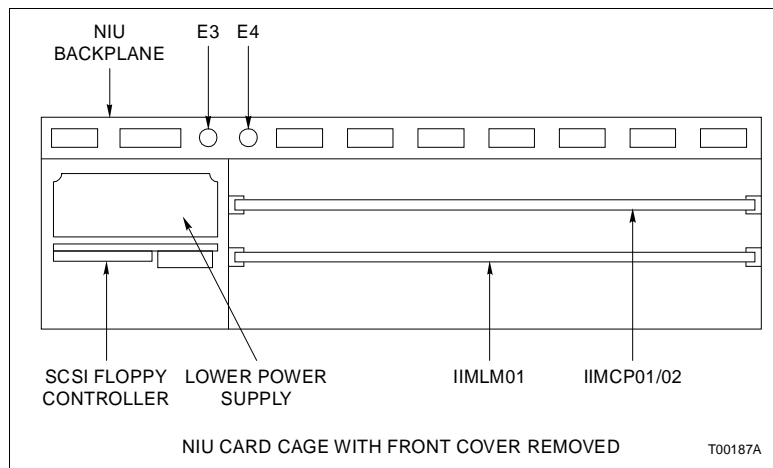

Figure PR35-2. NIU Card Cage with Covers Removed
- 5. Unplug and remove the IIMCP02 module from the NIU backplane (Fig. PR35-2).